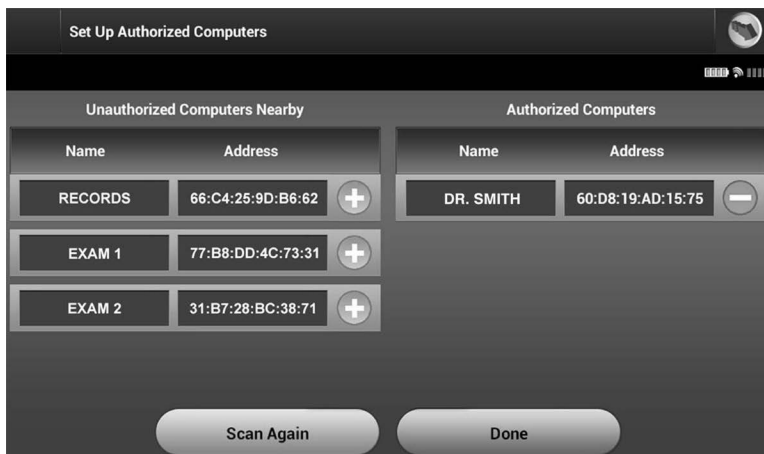

Figure 6: Choosing a computer to authorize for *Bluetooth*® data transfer
3. When the scan is complete the screen will list the discovered computers (the three computers having the strongest *Bluetooth®* signals) under the heading Unauthorized Computers Nearby (Figure 6). Choose the computer you wish to pair with and press the plus button next to it to complete the pairing process.